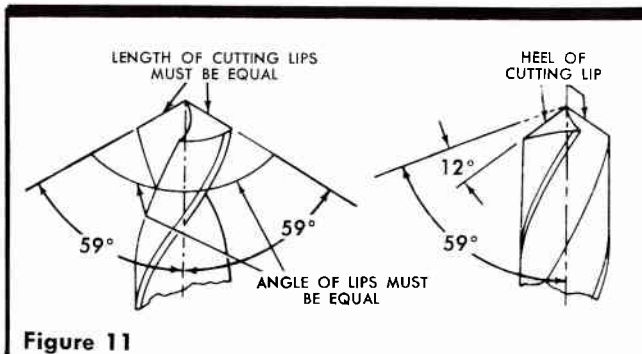

Figure 11
1. Drill Sharpening. (See figure 11). When grinding twist drills, extreme care should be exercised, in order to maintain the efficiency of the drill. The dead center of the point must be maintained, that is, both cutting lips must be the same length. Also, the angle of cutting lips in relation to the center-line of the drill must be equal. The angle should be approximately 59 degrees (118 degrees included) for metal, and 30 degrees (60 degrees included) for wood. The cutting lip should be relieved gradually behind the cutting edge so that the clearance at the heel is approximately 12 degrees.